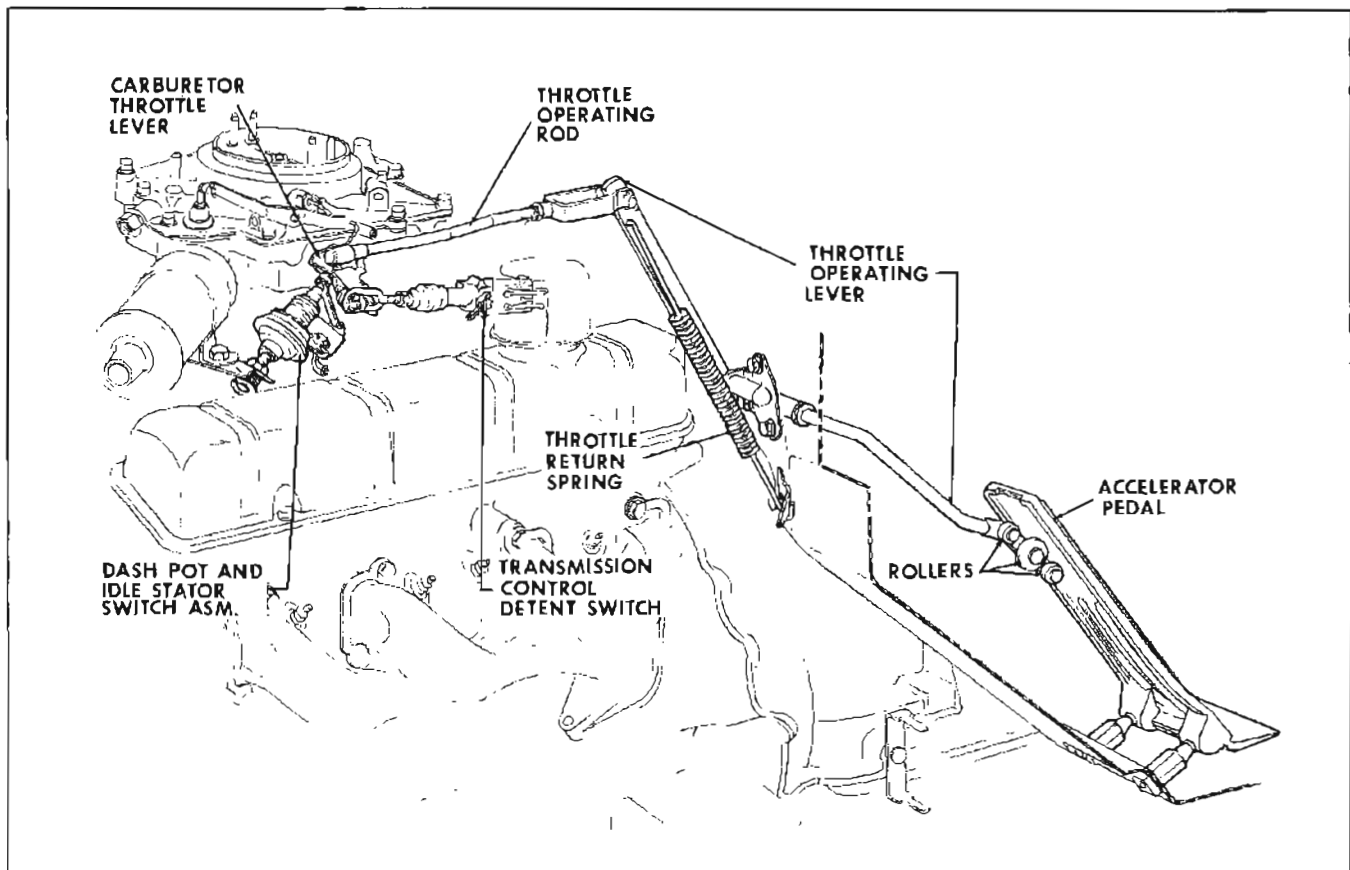

Figure 3-17—Throttle Linkage and Transmission Control Switches—300 Engine
2. Unsnap front end of throttle operating rod from carburetor throttle lever. See Figure 3-17. While another man presses accelerator pedal against floor mat, hold carburetor throttle lever in wide open position and hold throttle rod socket in alignment with ball on throttle lever. Socket must be approximately 1/16 inch (2 turns) short of ball. If adjustment is necessary, loosen lock nut, adjust throttle rod length as required, and retighten lock nut.
On 2-speed automatic transmission cars only, the switch also has a second set of contacts which close slightly before wide open throttle position to cause the stator blades in the transmission to "switch-the-pitch" to high performance angle. See Figures 3-17 and 3-18.
Used only with the 2-speed automatic transmission, this switch closes just before the throttle reaches slow idle position; this causes a solenoid valve in the transmission to operate, which, in turn, causes the stator blades to "switch-the-pitch" to high angle. This reduces the transmission load on the engine at idle, thereby reducing the tendency of the car to creep. See Figure 3-17.